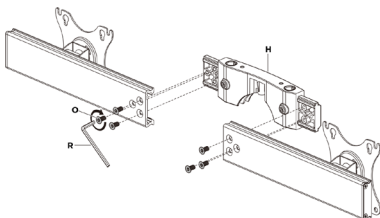

Figure 7
- Using the **M6x12mm Screws (x6)** and the **4mm Hex Key**, fasten each of the **Crossbars** to the **Crossbar Mount, Upper** by carefully driving the **M6x12mm Screws** through each of the assembly mounting points on the **Crossbars** and into the assembly mounting holes on the **Crossbar Mount, Upper**. As shown in Figure 7.